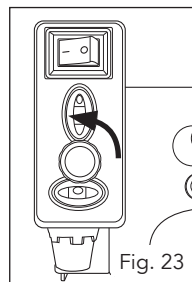

Fig. 23
4. You can additionally adjust the laser with the laser adjustment screw (27).
To do so, undo the screw (27) by a few turns. The laser (28) can now be moved and adjusted vertically and horizontally on the adapter (Fig. 23). Tighten screw (27) again when you are satisfied with the adjustment.